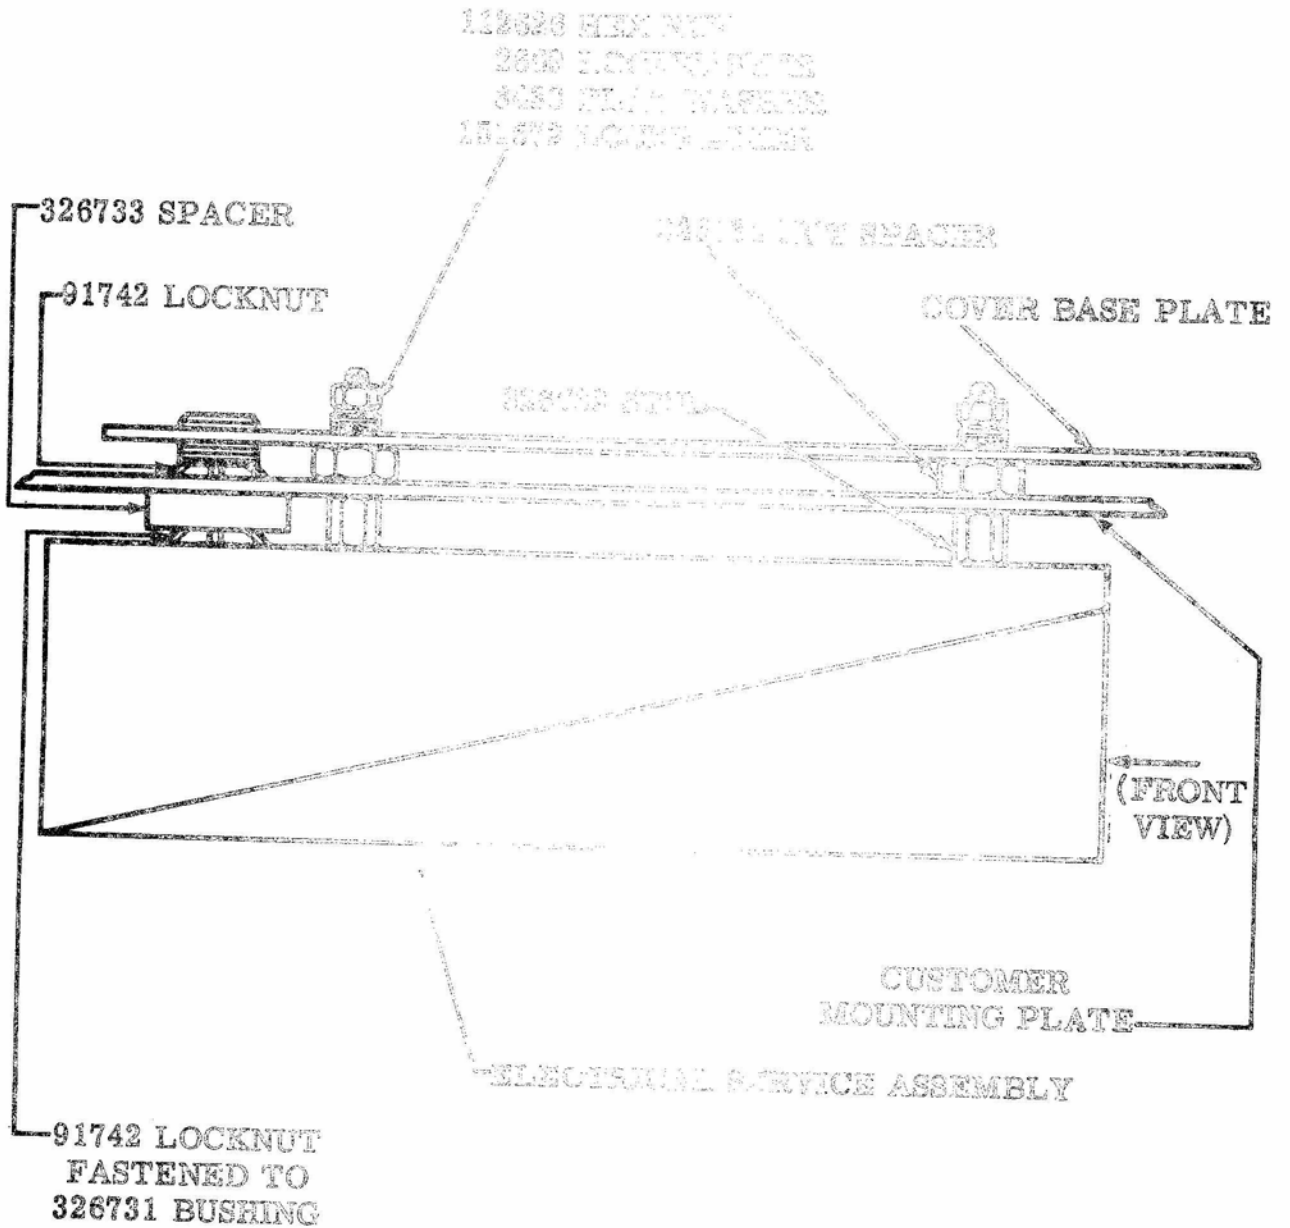

Figure 3 - Installation of the Cover Base Plate and Electrical Service Assembly on Customer Mounting Plate
- 3.46 Assemble the 324061 electrical service assembly to the mounting plate and cover base as follows, (refer to Figure 3):
- 3.66 If for any particular installation the electrical service assembly is not fastened to the cover base plate as indicated in Figure 3, the electrical service assembly must be connected and thereby grounded to the cover base plate by means of 1/2 inch flexible armored conduit. The conduit fittings should be fastened to the electrical service unit and to the cover base plate by means of the mounting holes normally occupied by the 326731 bushings. The interconnecting cables must then be routed through the conduit.